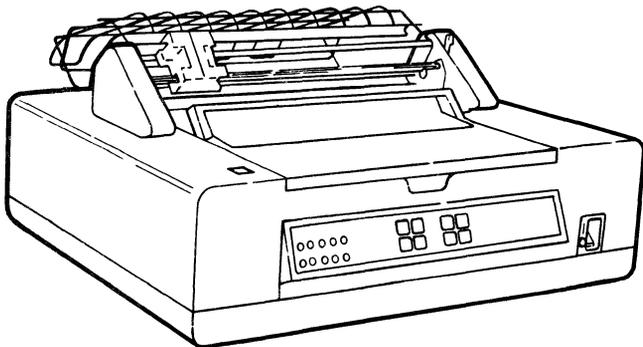

Figure 4 - Printwheel Printer (With Optional Tractor Feed)
- Two bidirectional printwheel printers (Figure 4) also provide hard copy output for the Displaywriter work station. These cable connected printers can be shared by up to three work stations. The printwheel printers have rated burst speeds of up to 40 CPS and 60 CPS.
- The Tractor-feed attachment feeds continuous forms into the printer (Figure 4).